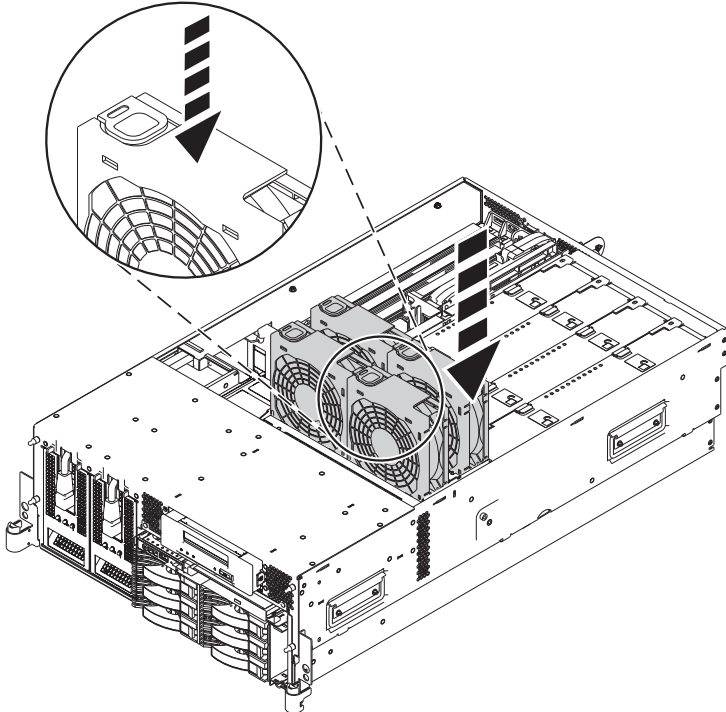

Figure 32. Installing the fans in the 8204-E8A or 9409-M50 fan cage
- 3) To install the fans, insert the fans into their location in the fan cage, and push down on the fan until it locks into place, as shown in Figure 32.